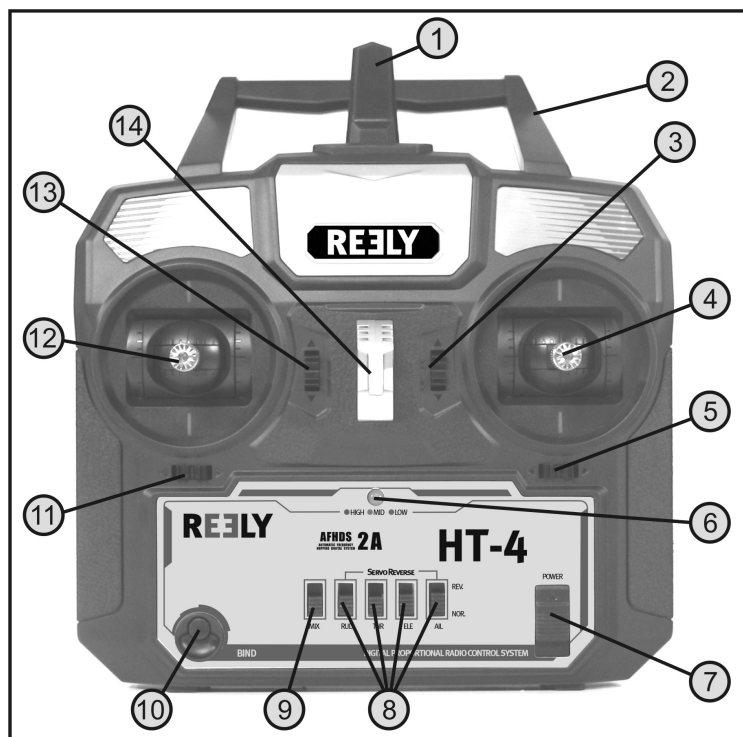

Figure 1
When new batteries are inserted, switch on the transmitter with the function switch (see figure 1, item 7) for test purposes. For this, slide the operating switch from the bottom (off) to the top (on).
The transmitter emits a short signal sound and the LED display (also see figure 1, item 6) lights up green permanently.
The remote control „HT-4“ has a finely tuned digital trimming with which each control channel can be individually set with a trimming button (also see figure 1, items 3, 5, 11 and 13).